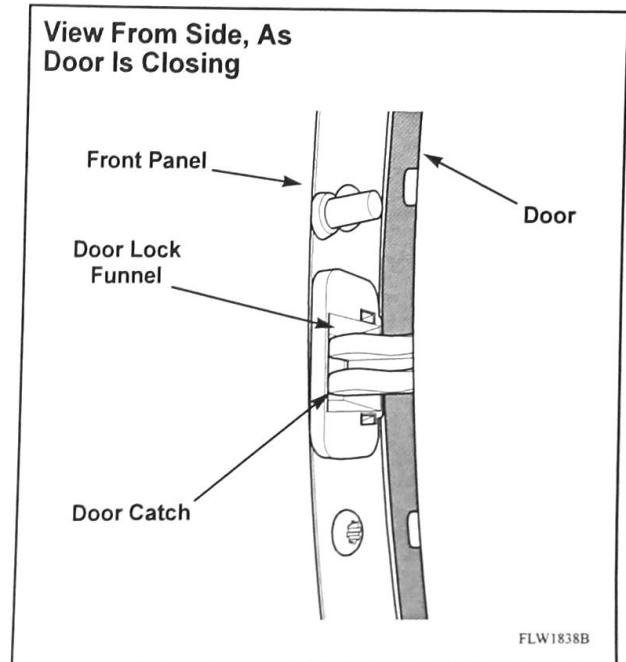

Figure 4
- d. Swing door closed and verify door catch is centered or slightly above center of door lock funnel. Refer to *Figure 4*.